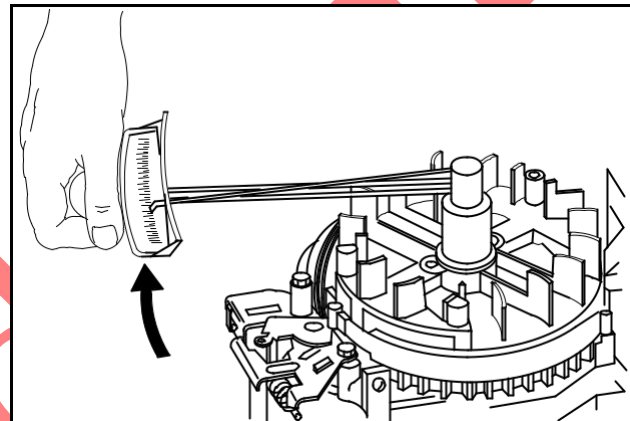

Fig. 122
2. With band brake engaged, rotate flywheel clockwise, Fig. 122, and note torque wrench reading.